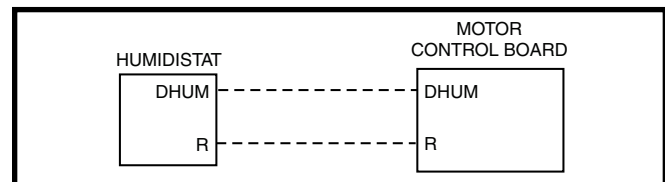

Figure 11. DHUM Wiring Configuration
2. If using a separate humidistat, connect the **DHUM** & **R** terminals on the humidistat to the **DHUM** & **R** terminals on the motor control board of the air handler. In this option, the **DHUM** output of the humidistat must be set to be normally open and closed when there is a call for humidification. See Figure 11.